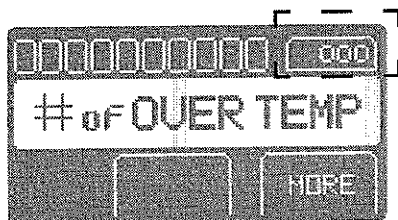

Figure 14 Total Number of Over Temperature Events
1. From the READY, CHARGING, or REPLACE message screen, press the MORE button. The CONDITION BATTERY option message screen will appear. Press the MORE button again to access the # (number) of OVER TEMP message screen (# of OVER TEMP screen will appear directly from the CONDITIONING screen). The counter will display the number of times the battery pack has been exposed to an over temperature condition (see figure 14).